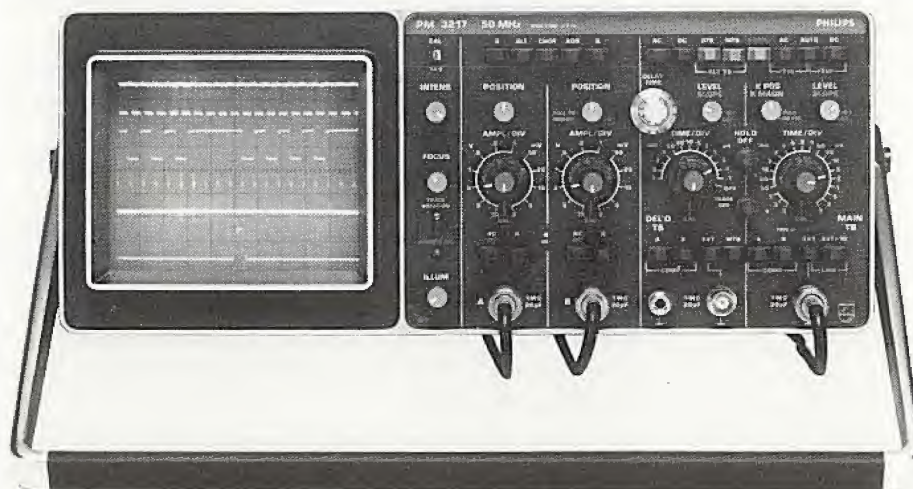

Fig. 17.
3.3. EXPLANATION OF CONTROLS AND SOCKETS (see fig. 17.)